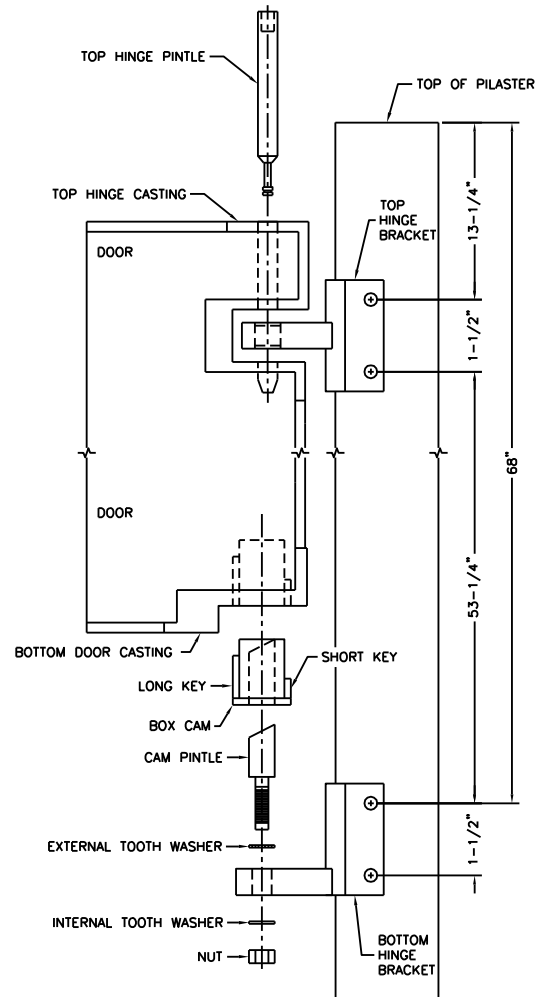

Figure 9A
- a. Attach top and bottom hinge brackets to pilaster with thru bolts (4-total). If pilasters were not pre-drilled at the factory, use dimensions shown in Figure 9A as a drilling ( $\frac{1}{4}$ " bit) guide.
- b. Assemble cam pintle, external tooth washer, internal tooth washer, and  $\frac{1}{2}$ " hex nut to the bottom hinge bracket as shown in Figure 9A and hand-tighten (to be wrench-tightened later).
- c. Insert box cam into bottom door casting as shown in Figure 9A, with short key pointing toward hinge side (edge) of door.
- d. Set door onto bottom hinge cam pintle. Bring door up so the top hinge casting is in line with the top hinge bracket as shown in Figure 9A. Insert the top hinge pintle and tap it down so it's flush with the top of the door.
- Attach top and bottom hinge brackets to pilaster with thru bolts (4-total). If pilasters were not pre-drilled at the factory, use dimensions shown in Figure 9a as a drilling ( $\frac{1}{4}$ " bit) guide.
- Assemble cam pintle, external tooth washer, internal tooth washer, and  $\frac{1}{2}$ " hex nut to the bottom hinge bracket as shown in Figure 9a and hand-tighten (to be wrench-tightened later).
- Insert box cam into bottom door casting as shown in Figure 9a, with short key pointing toward hinge side (edge) of door.
- Set door onto bottom hinge cam pintle. Bring door up so the top hinge casting is in line with the top hinge bracket as shown in Figure 9a. Insert the top hinge pintle and tap it down so it's flush with the top of the door.